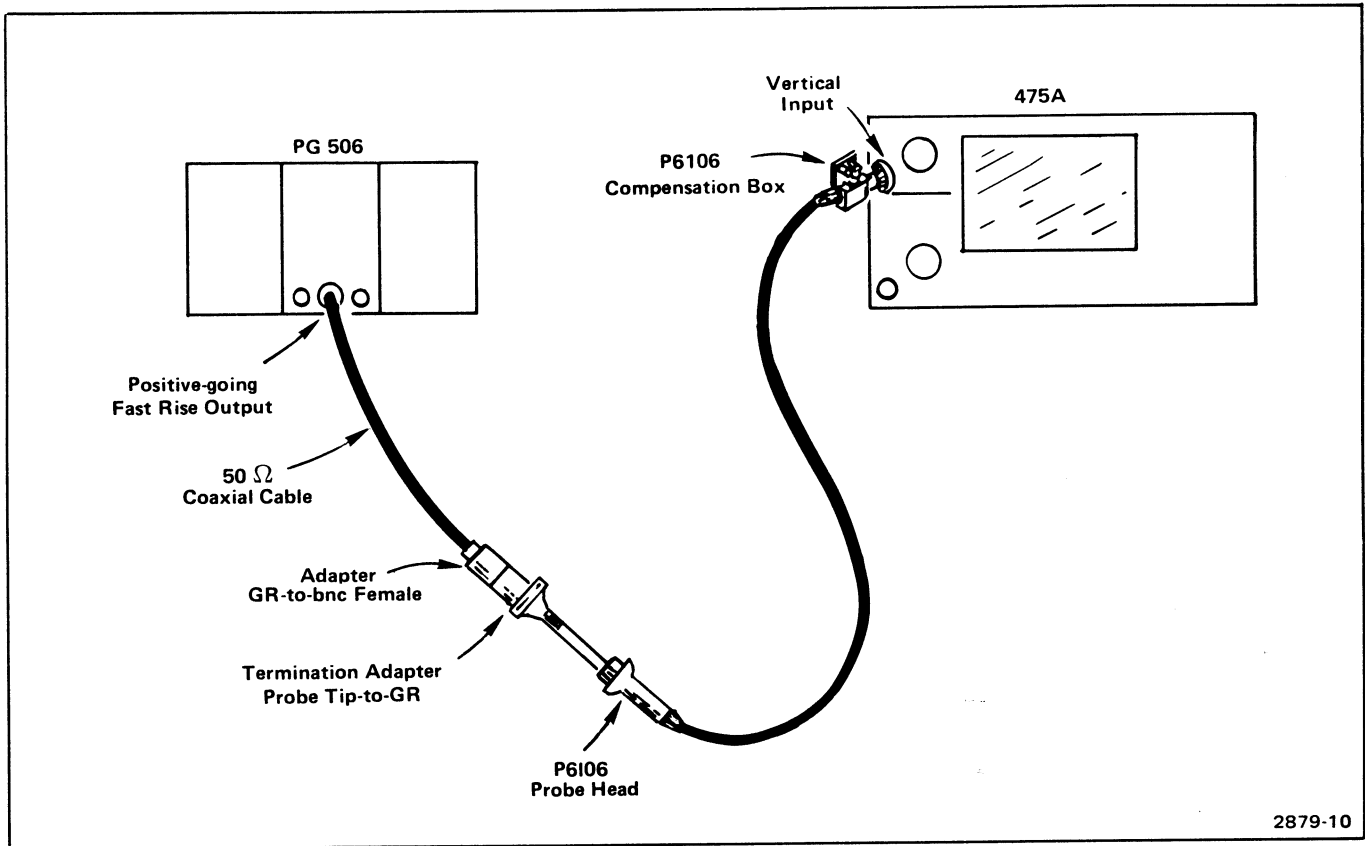

Fig. 8. Equipment hookup for checking high-frequency compensation.
m. Connect the probe tip to the positive-going fast-rise output on the calibration generator, using the probe tip-to-GR termination adapter, the GR-to-bnc female adapter, and the 50-Ω coaxial cable. See Fig. 8.